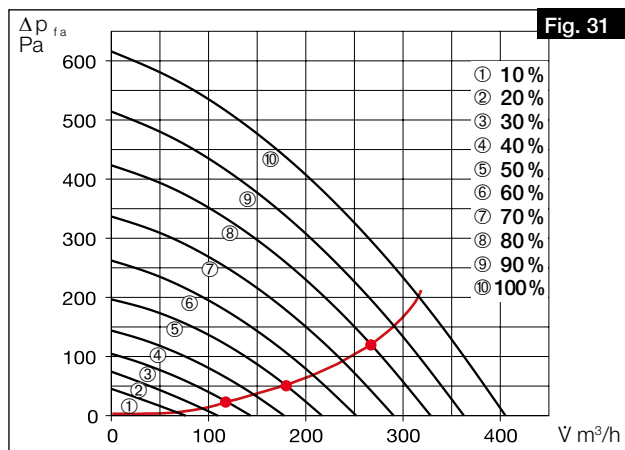

Fig. 31
6. If individual measuring points are connected, the system characteristic curve is for supply or extract air (cf. Fig. 31).